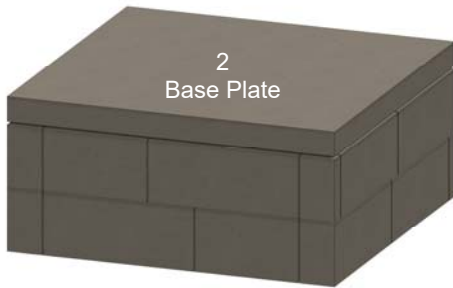

Figure 8. Kit Base Plate
B. Set the base plate (2), ensuring it is level and square. See Figure 8.